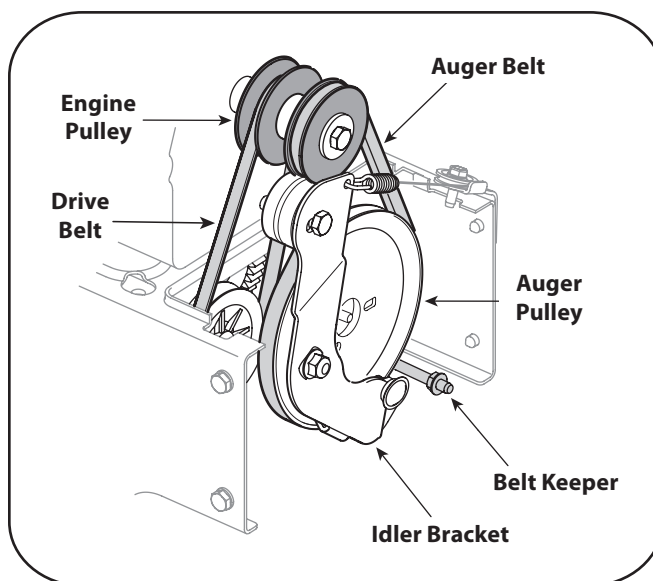

Figure 7-2
2. Slip the front auger belt off of the engine pulley, pushing it forward and rolling in off of the pulley. See Fig. 7-2.
5. Place the new drive belt on the engine pulley. See Fig. 7-2.